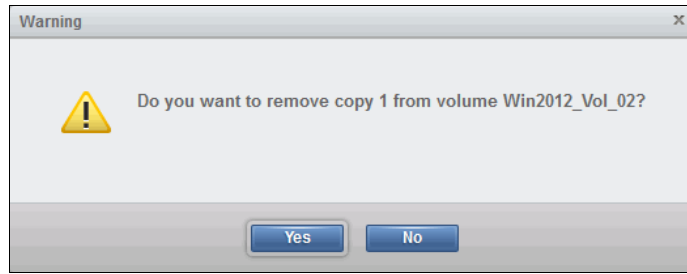

Figure 8-77 Delete a copy
2. Confirm the deletion process by clicking **Yes**. Figure 8-77 shows the copy deletion Warning pane.